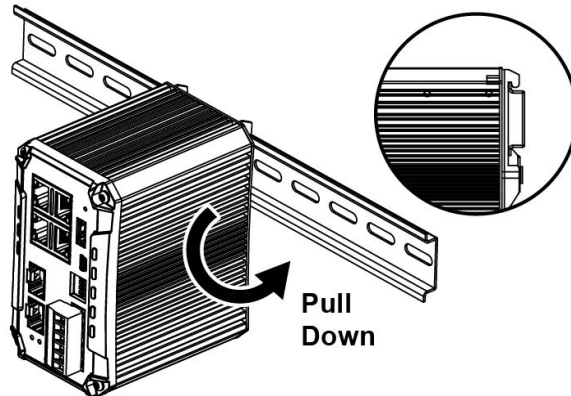

Figure 3.3 - Stable the Switch on the DIN-Rail
4. Lightly pull down the bracket onto the rail as shown below in *Figure 3.3*.